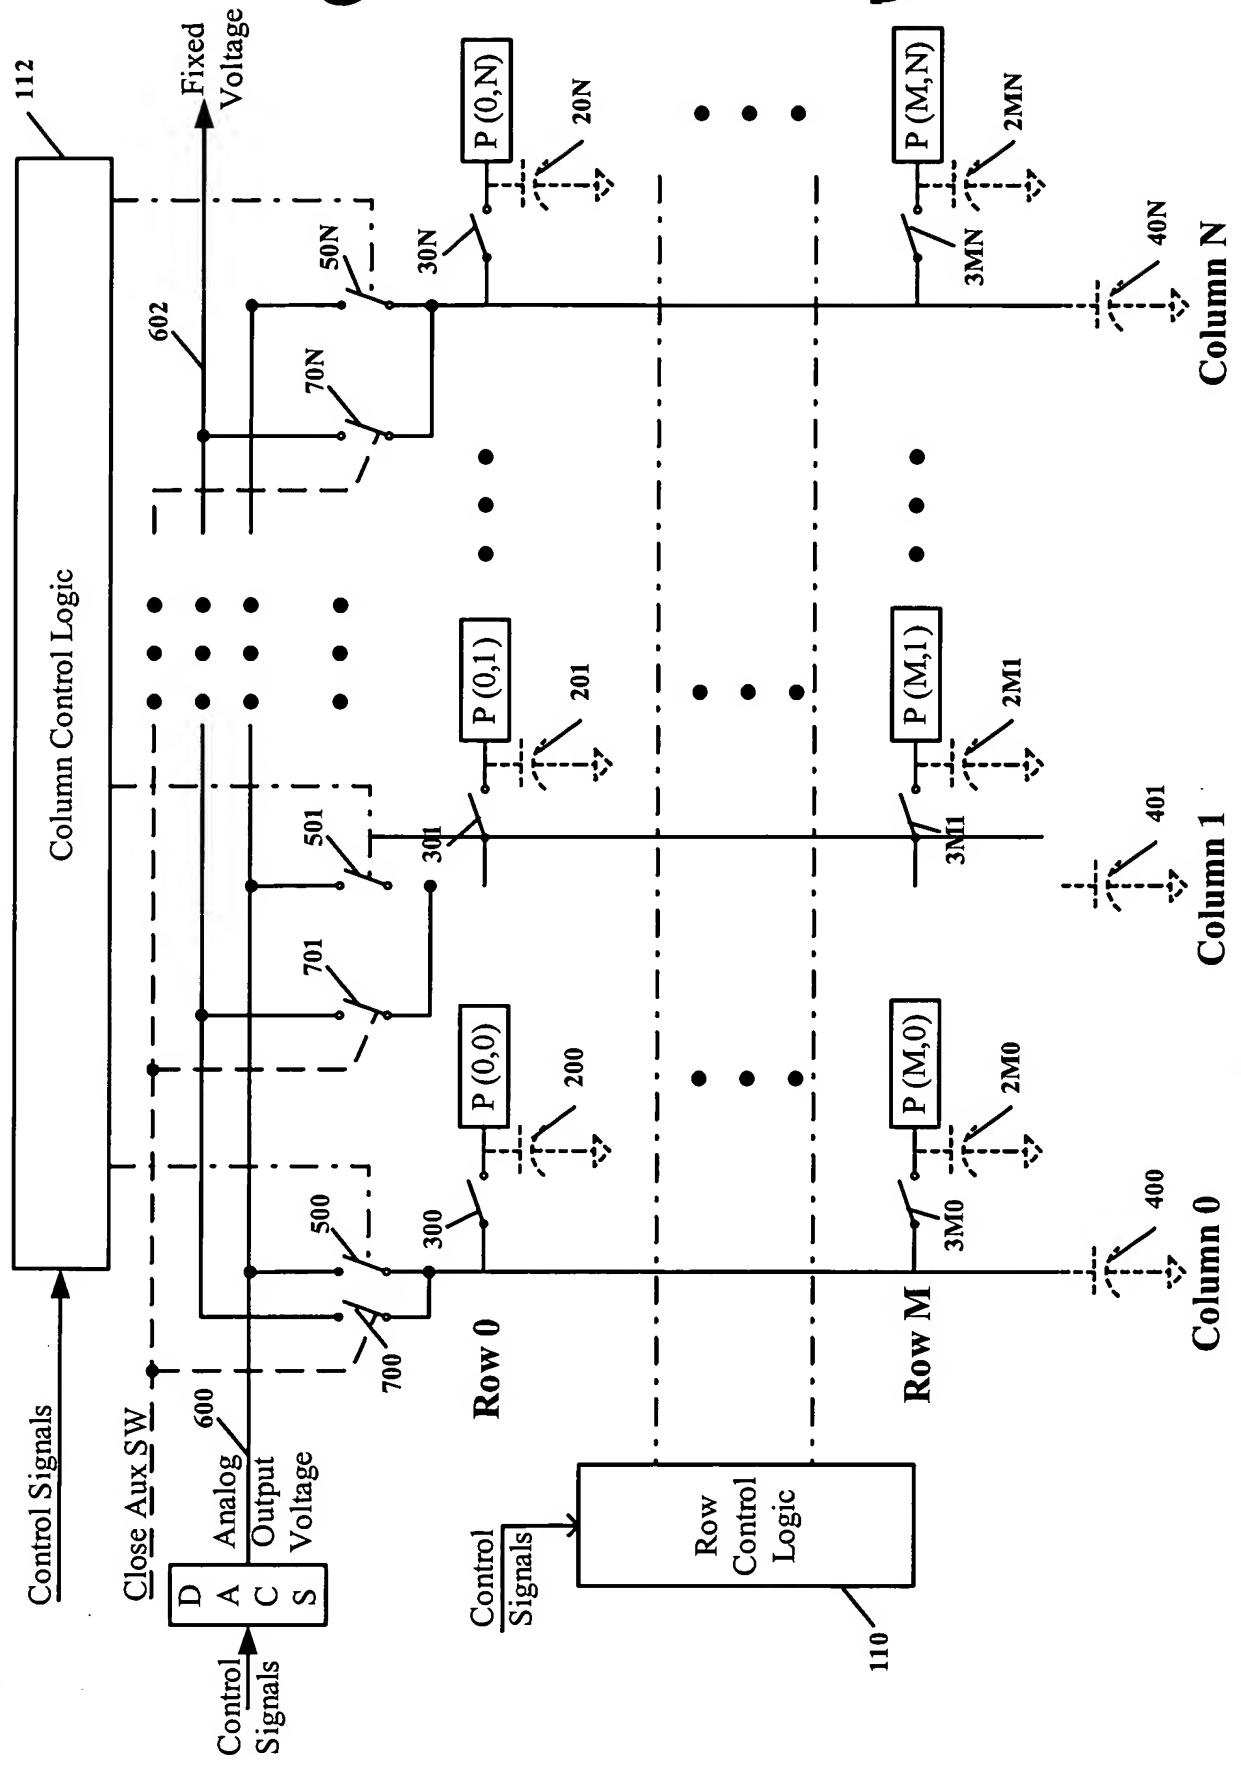

FIGURE 3
FIG. 3 is a schematic diagram of a memory array structure in accordance with the present invention. The array is organized into rows and columns. Each row is connected to a row control line (RCL) and each column is connected to a column control line (CCL). The array is divided into two main sections: a top section and a bottom section. The top section contains a row of memory cells (P(0,0) to P(0,N)) and the bottom section contains a row of memory cells (P(M,0) to P(M,N)). Each memory cell is connected to a row control line and a column control line. The row control lines are connected to a row control logic block (110) and the column control lines are connected to a column control logic block (112). The row control logic block (110) receives control signals (D, A, C, S) and provides control signals to the row control lines. The column control logic block (112) receives control signals and provides control signals to the column control lines. The array is also connected to a fixed voltage source (602) and an analog output voltage source (600). The array is controlled by a 'Close Aux SW' signal (600) and a 'Control Signals' input (D, A, C, S). The array is organized into rows (Row 0 to Row M) and columns (Column 0 to Column N). Each row is connected to a row control line (RCL) and each column is connected to a column control line (CCL). The array is divided into two main sections: a top section and a bottom section. The top section contains a row of memory cells (P(0,0) to P(0,N)) and the bottom section contains a row of memory cells (P(M,0) to P(M,N)). Each memory cell is connected to a row control line and a column control line. The row control lines are connected to a row control logic block (110) and the column control lines are connected to a column control logic block (112). The row control logic block (110) receives control signals (D, A, C, S) and provides control signals to the row control lines. The column control logic block (112) receives control signals and provides control signals to the column control lines. The array is also connected to a fixed voltage source (602) and an analog output voltage source (600). The array is controlled by a 'Close Aux SW' signal (600) and a 'Control Signals' input (D, A, C, S). The array is organized into rows (Row 0 to Row M) and columns (Column 0 to Column N). Each row is connected to a row control line (RCL) and each column is connected to a column control line (CCL). The array is divided into two main sections: a top section and a bottom section. The top section contains a row of memory cells (P(0,0) to P(0,N)) and the bottom section contains a row of memory cells (P(M,0) to P(M,N)). Each memory cell is connected to a row control line and a column control line. The row control lines are connected to a row control logic block (110) and the column control lines are connected to a column control logic block (112). The row control logic block (110) receives control signals (D, A, C, S) and provides control signals to the row control lines. The column control logic block (112) receives control signals and provides control signals to the column control lines. The array is also connected to a fixed voltage source (602) and an analog output voltage source (600). The array is controlled by a 'Close Aux SW' signal (600) and a 'Control Signals' input (D, A, C, S).